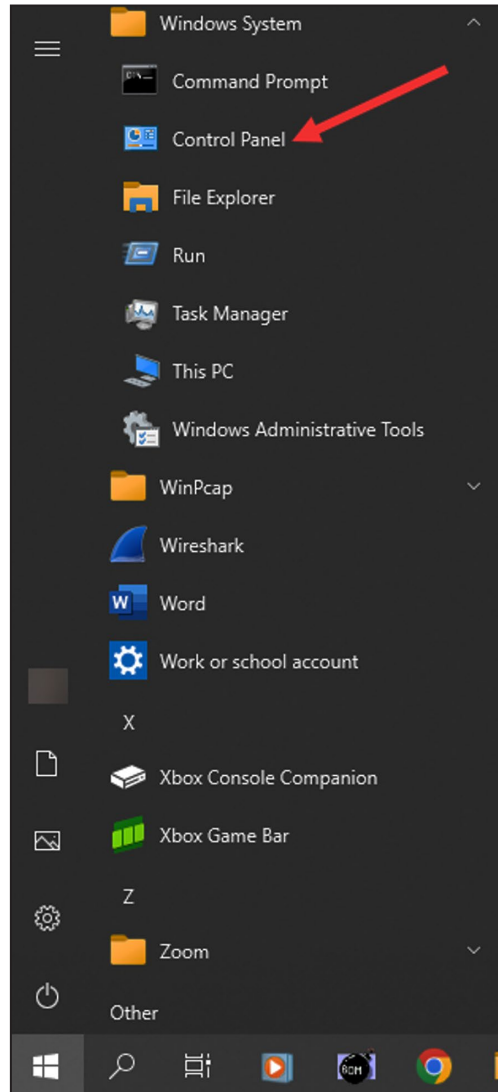

Figure 36. The Windows Start Menu.
- STEP 2.** Click on the **Start** button, and select “Control Panel.” See Figure 36.